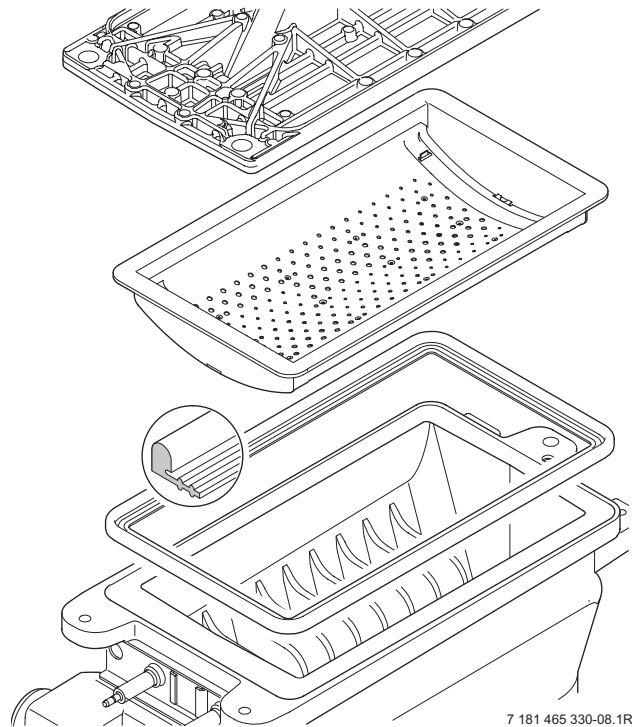

Fig. 54
- Remove the burner skin and clean components. Do not use a wire brush. Refer to fig. 54.